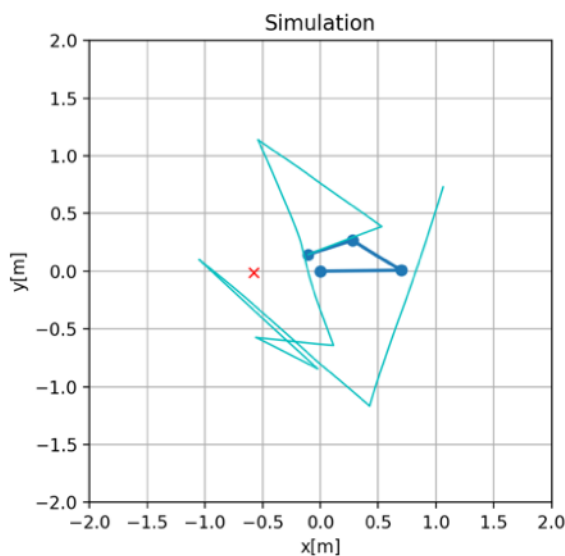

Fig 3. Simulation of the manipulator, including end-effector path.
- 2) Plot presenting the visualisation of the robot structure in motion (see Fig. 3).